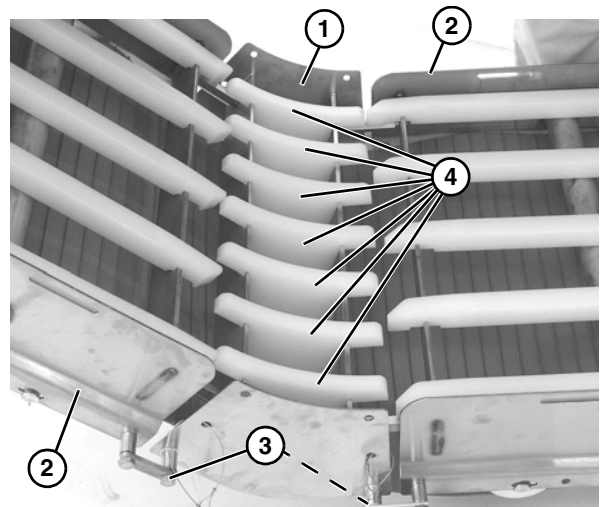

Figure 14
- Attach lower knuckle (**Figure 14, item 1**) to frame (**Figure 14, item 2**) with hex rods and bolts (**Figure 14, item 3**).
- Install wear strips (**Figure 14, item 4**).